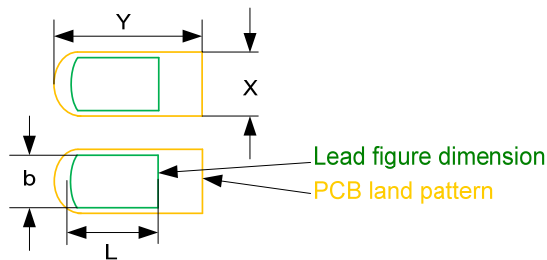

Figure 15. Lead Pads
The Pad width (X) should be a minimum 0.05mm wider (0.025mm each side) than the package terminal width (b) as shown in Figure 15 below.